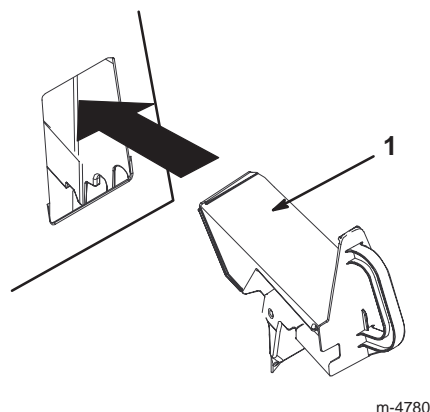

Figure 18
4. Insert the recycler plug into the opening as shown in Figure 18.